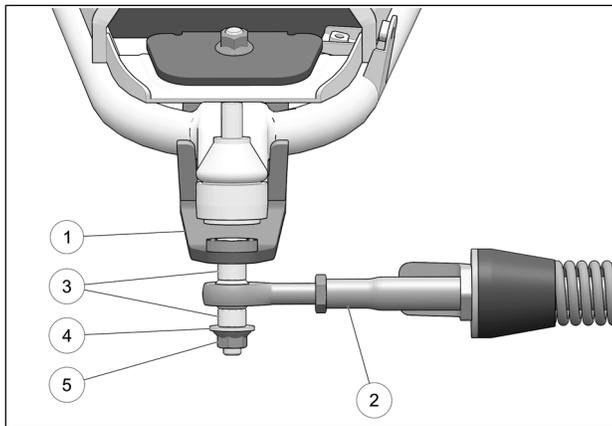

Fig. 17
8. Attach stabilizing rod (2) to anchor bracket (1), using the two spacer bushings (3), flat washer (4) and nut (5). Torque to 70 N•m [52 lb•ft]. See Fig. 17